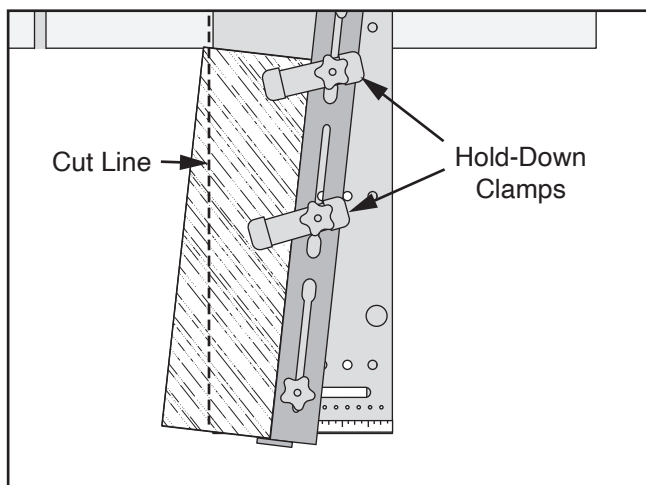

Figure 19. Workpiece prepared for cut.
6. Secure workpiece with hold-down clamps so they will not contact blade or blade guard during cut (see **Figure 19**), then tighten hold-down clamp knobs to secure.